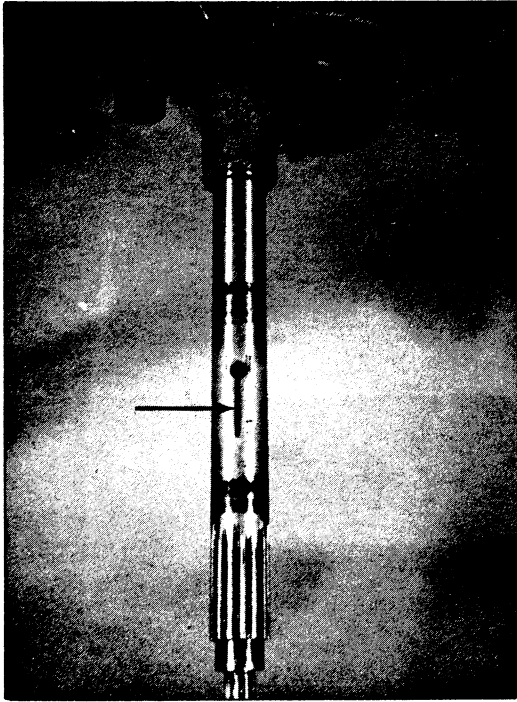

Figure 93 - Spin Tube showing Tee-Key Slot
the wall of the spin tube (3). Now the center shaft, torque spring and spin tube are locked together as a unit and start turning together, thus transmitting this action to the clothes basket and results in the spin action. The spin tube has a slot which enables the tee-key to move up or down. At the top of the slot is a hole which allows the tee-key to be turned for removal or installation, *Figure 93.*